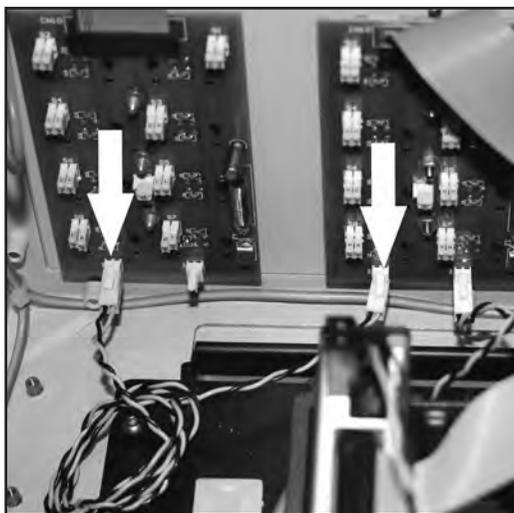

Figure 11. Power cable connections for new module.
16. Inside the Midbox connect one power cable socket to either of the two way plugs on the rear of the new 4 - 20mA input plate PCB. Connect the other socket to one of the existing front panel input plate PCB plugs; See figure 11.